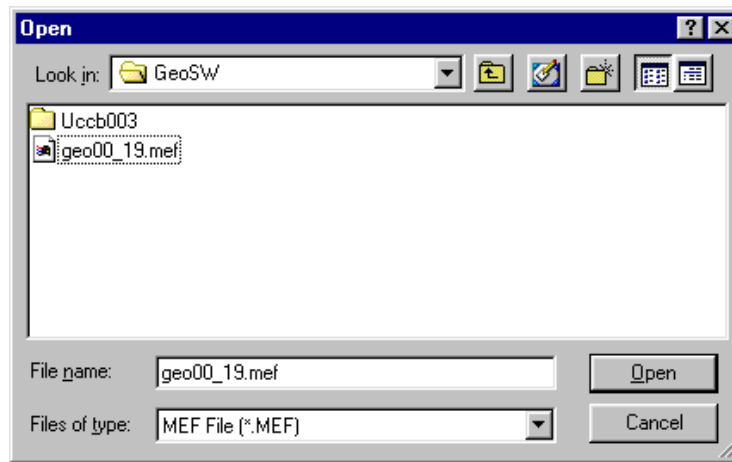

Figure 3-24
5. The **Open** window is displayed to select the path and filename to the desired MEF for loading (figure 3-24).